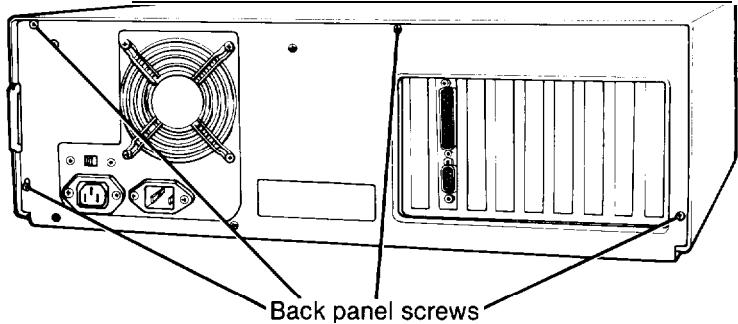

Figure 4-1. Buck panel mews
3. As shown in Figure 4-1, the top cover is secured by four screws on the back panel. Remove the screws and put them all safely to one side. They are small so be careful when you take them out.